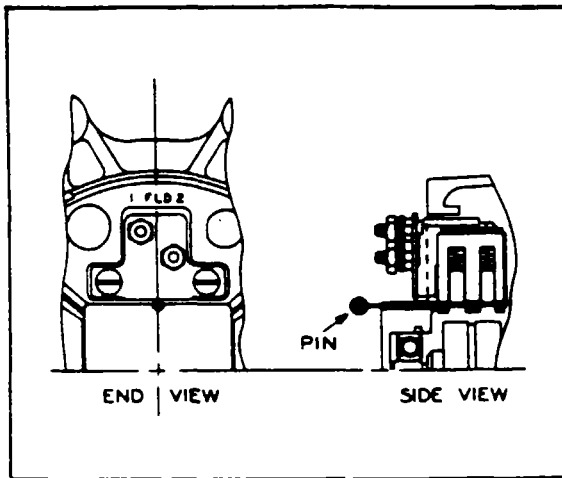

Figure 11-34. Brush Installation
c. Brushes: These units have a separate brush holder assembly that is installed after the alternator has been assembled. The brush holder has a small hole that intersects the brush cavities. Use a pin or a piece of wire, as shown in Figure 11-34 to hold the brushes in the holder during assembly. Remove the pin after the brush holder retaining screws have been tightened. Make a continuity check to be sure the brushes are seated against the slip rings.